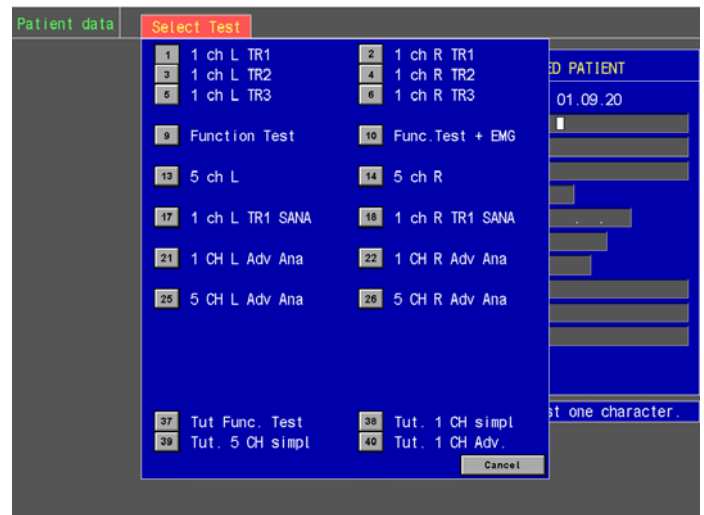

Figure 67 The Select Test Menu
- Click to proceed to the Select Test Menu, see Figure 67 below.
- In the Select Test Menu, click the selectable button number **37** named Tut. Func. Test, see Figure 67 above.